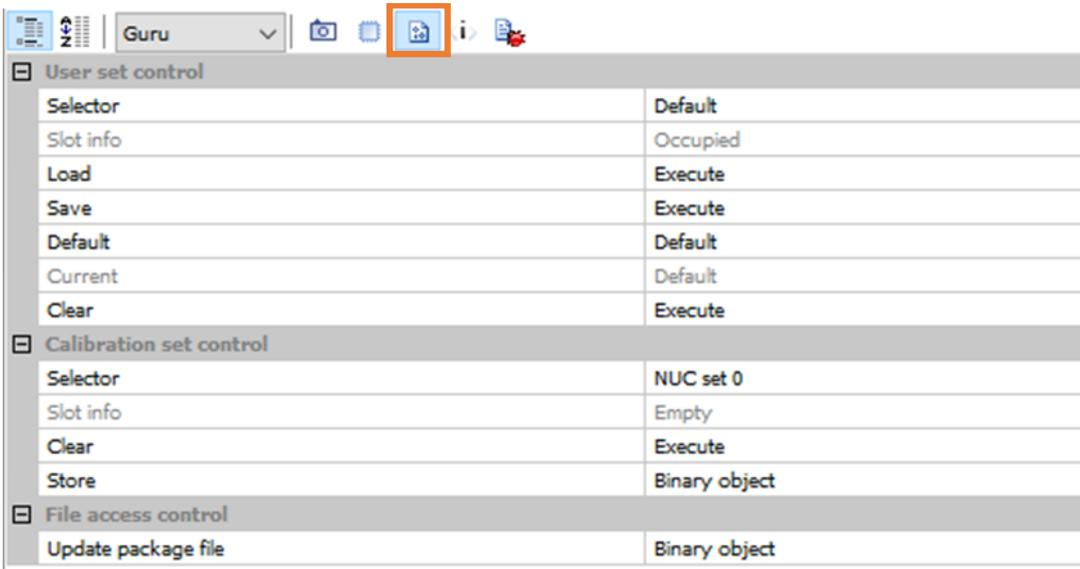

Figure 3.3 Correction pack upload: storage icon
- o In Xeneth: go to the Settings tab / Storage icon (see Figure 3.3)